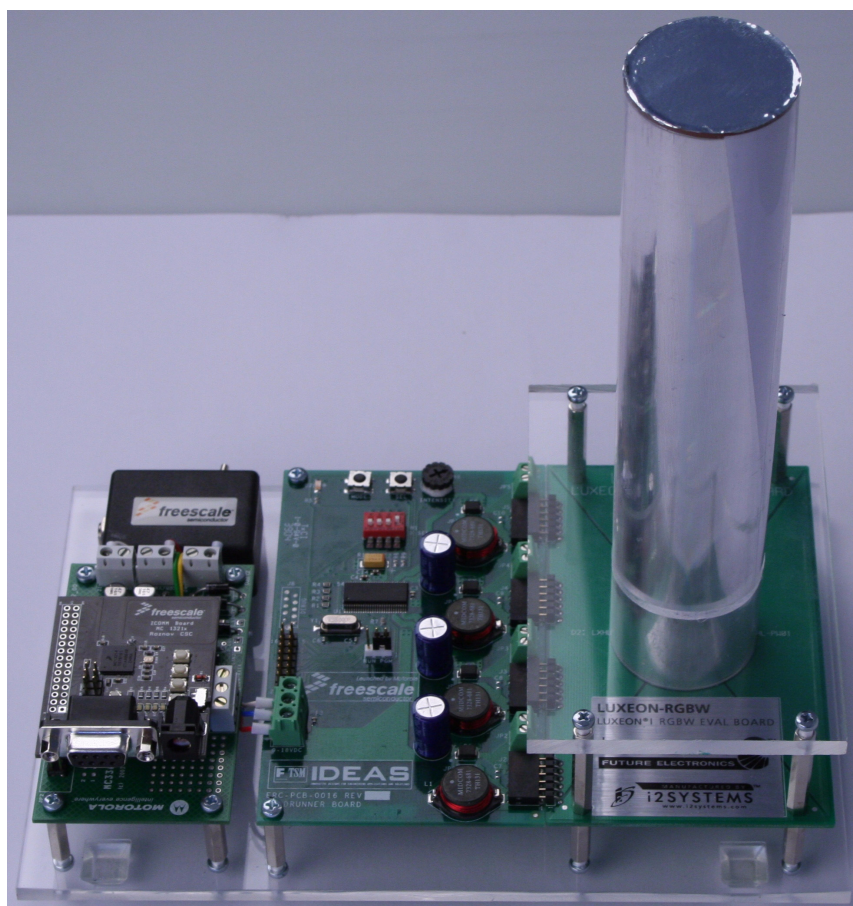

Figure 6-2. HB LED Demo System (Lightpipe Mounted)
- Put the Lightpipe into the gap in the plastic cover over the LEDs (see <st-blue>Figure 6-2.) .